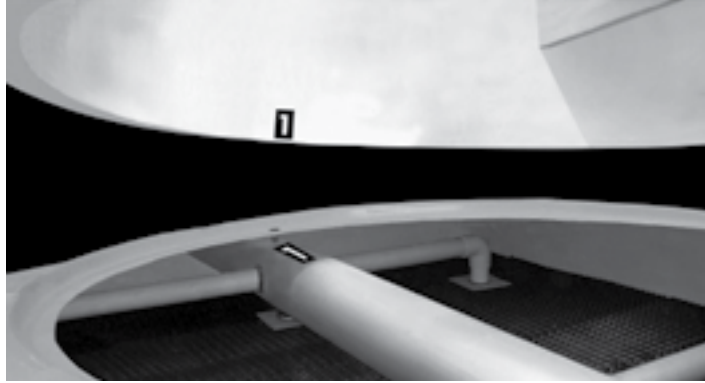

Figure A-73: Fan Duct alignment for a Modular Tower (RTM-B-S or RTPM-B-S)
- G.** Identify each fan duct, they are labeled with a number on the inside of the lower edge. For a correct installation, this number must match the number on the distribution manifold of the corresponding body section. Now place fan duct 1 on the correspondent receiving flange on top of the Tower; make sure the bolt holes and the marks inside the fan duct and the receiving flange are aligned (see Figure A-73). Secure it with the stainless steel nut and bolt sets supplied by REYMSA.